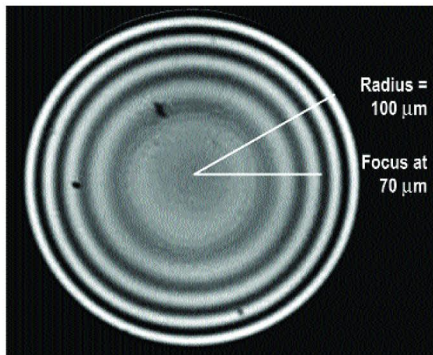

Figure 3. Best PSI focus position is at 70% of the lens radius.
**Focus at 70% of the Radius (PSI)** Focusing on the lens at a point 70% of the distance to the edge of the lens minimizes the residual wavefront error through the system. Figure 3 shows an example for a 100μm lens. The Camera Autofocus function in the Vision software allows you to focus on the top of the lens, then add an offset to move focus to the 70% position.